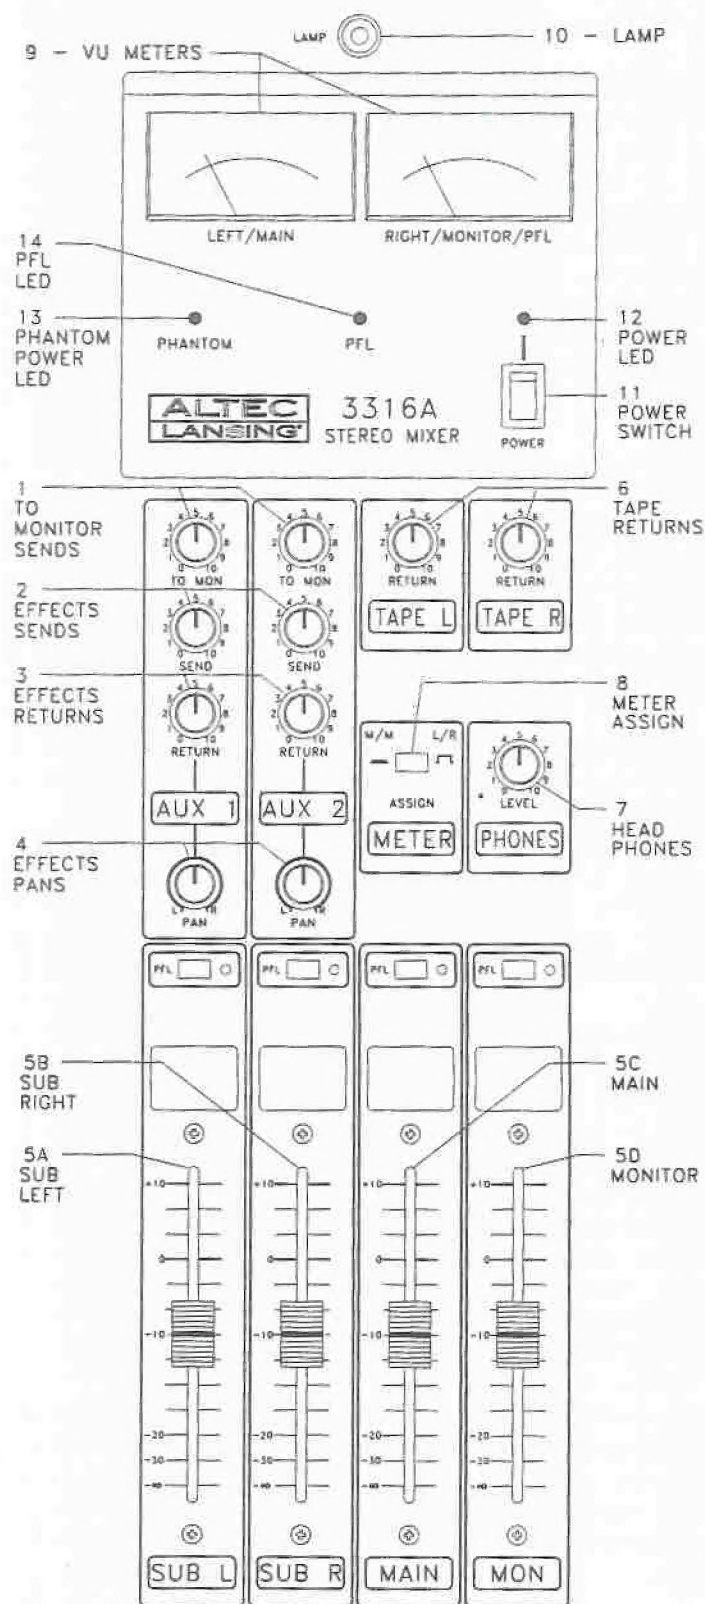

Figure 5. Output section controls.
and/or master faders (see Figure 5) are down before plugging or unplugging input sources.
4.2 Output Section Controls (Refer to Figure 5.)